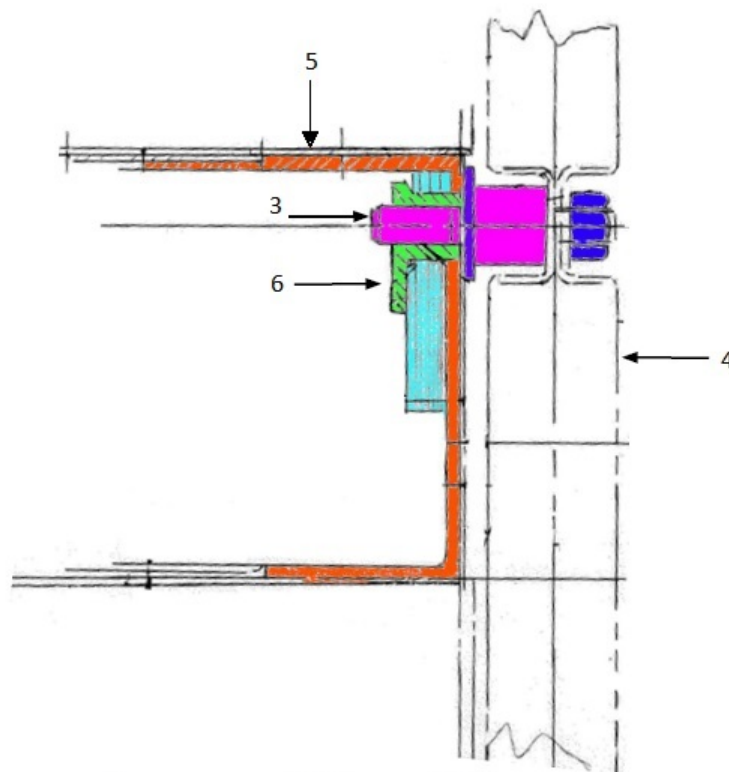

Figure 2
4.2.1. If necessary, remove the studs (3) (Section A-A, \(Figure 2\)).
- 4.3.2. Do an endoscopic inspection with the Borescope assembly (1) (not shown) on the inner surface of all the bushings (6) (Figure 2) to make sure that there is no corrosion or crack. Refer to MTC 20-90-03-103.